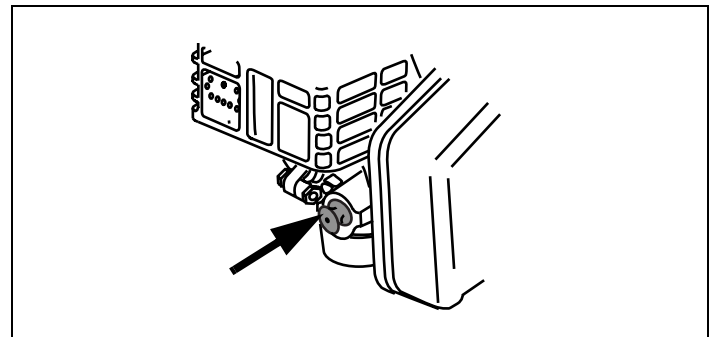

Figure 22. OH195EA/OH195EP Engine Primer Bulb
3. When starting a cold engine, push primer bulb firmly with your thumb 3 times, allowing primer bulb to return completely to original position between pushes. See Figure 22.